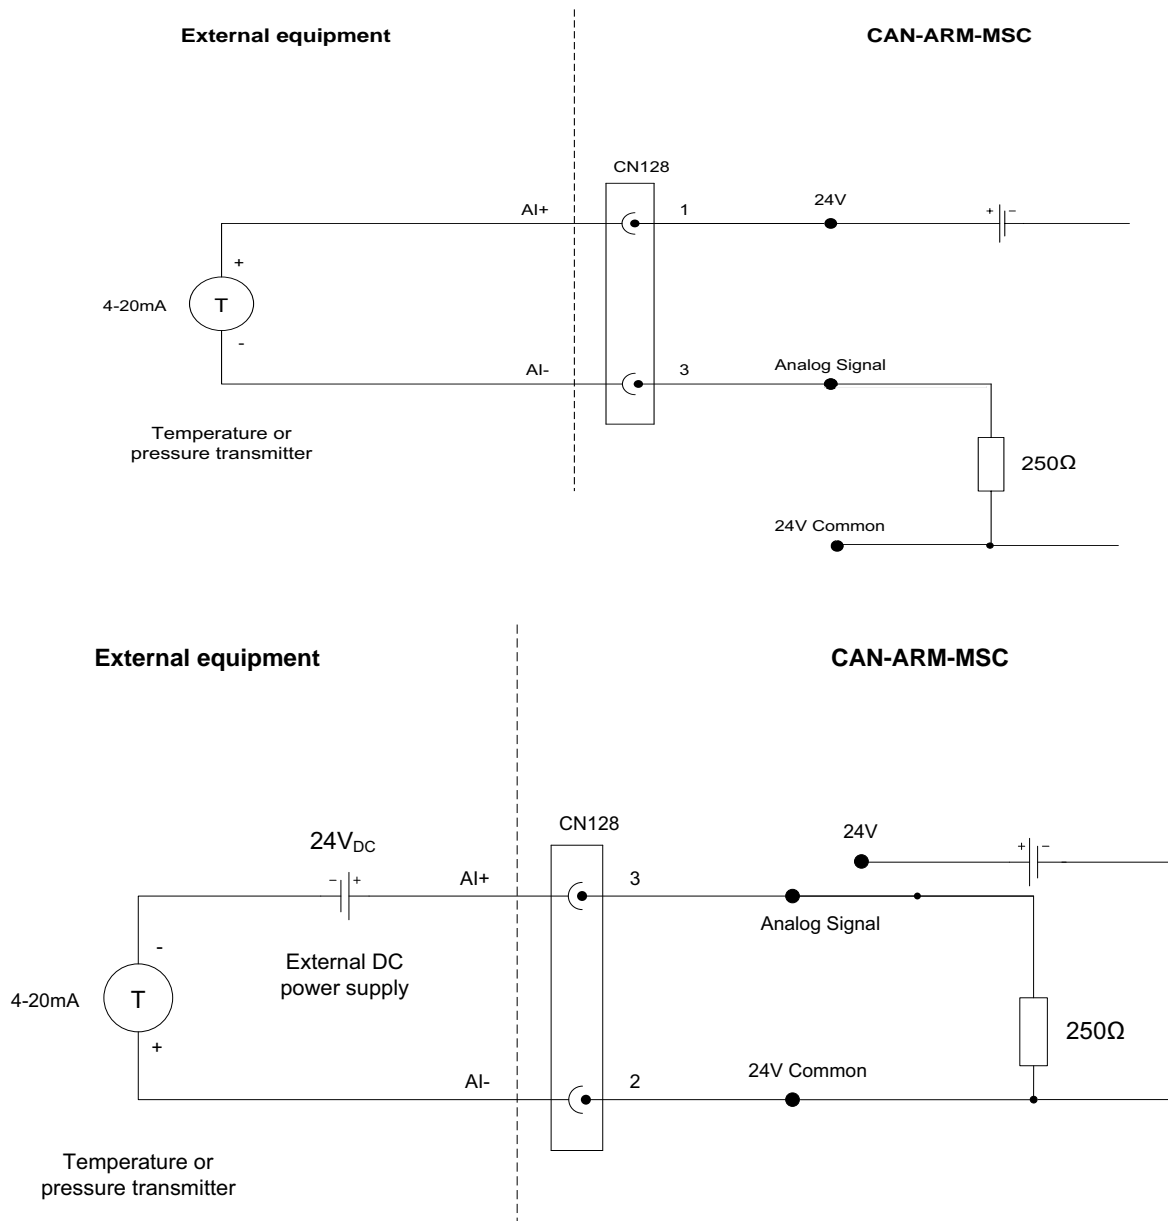

FIGURE 3-28
3.8.5 Analog Input (AI)**3.8.5.1 Functional Description**
The Analog Input (AI) supports 2-wire 4-20 mA, and can be configured by a switch to operate in active mode or passive mode. See FIGURE 3-28.